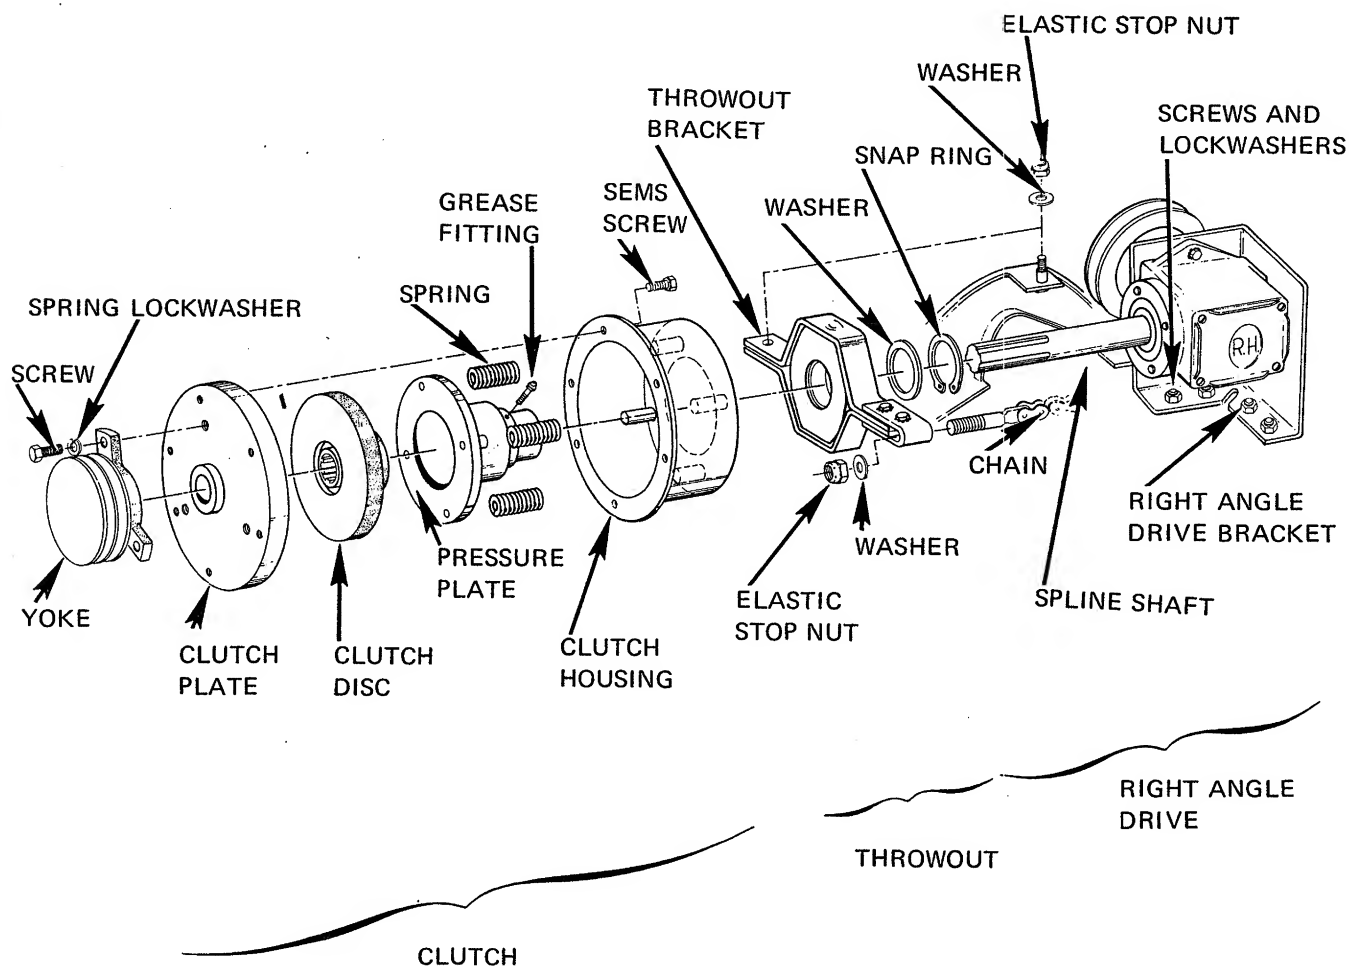

FIG. 17
8. If vibration occurs, loosen the four bolts holding the Right Angle Drive Bracket to the frame (see Fig. 17), disconnect the spark plug wire, and while the engine is cranking, tighten the four bolts holding the Right Angle Drive Bracket. This is covered in detail in the Drive Train Removal Section of this manual.
For any repair of the clutch, throwout or right angle drive it is necessary to remove this part of the drive unit from the tractor. (see Fig. 17)